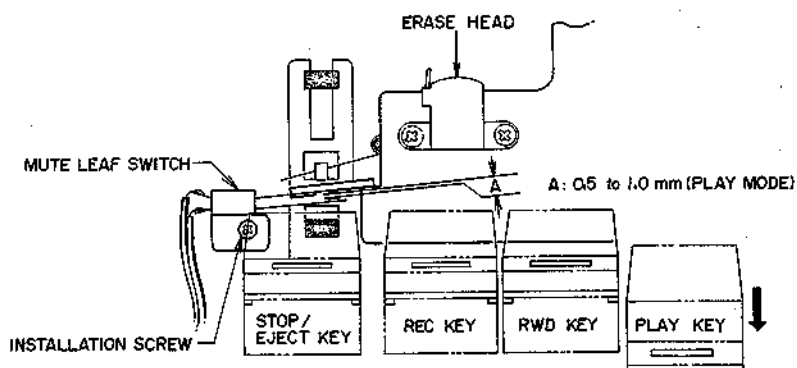

Fig. 18
2. MUTE LEAF SWITCH INSTALLATION POSITION ADJUSTMENT (Refer to Fig. 18)
When in the playback mode, the space A should be 0.5 to 1.0 mm as in Fig. 18. To adjust, turn the leaf switch installation screw.